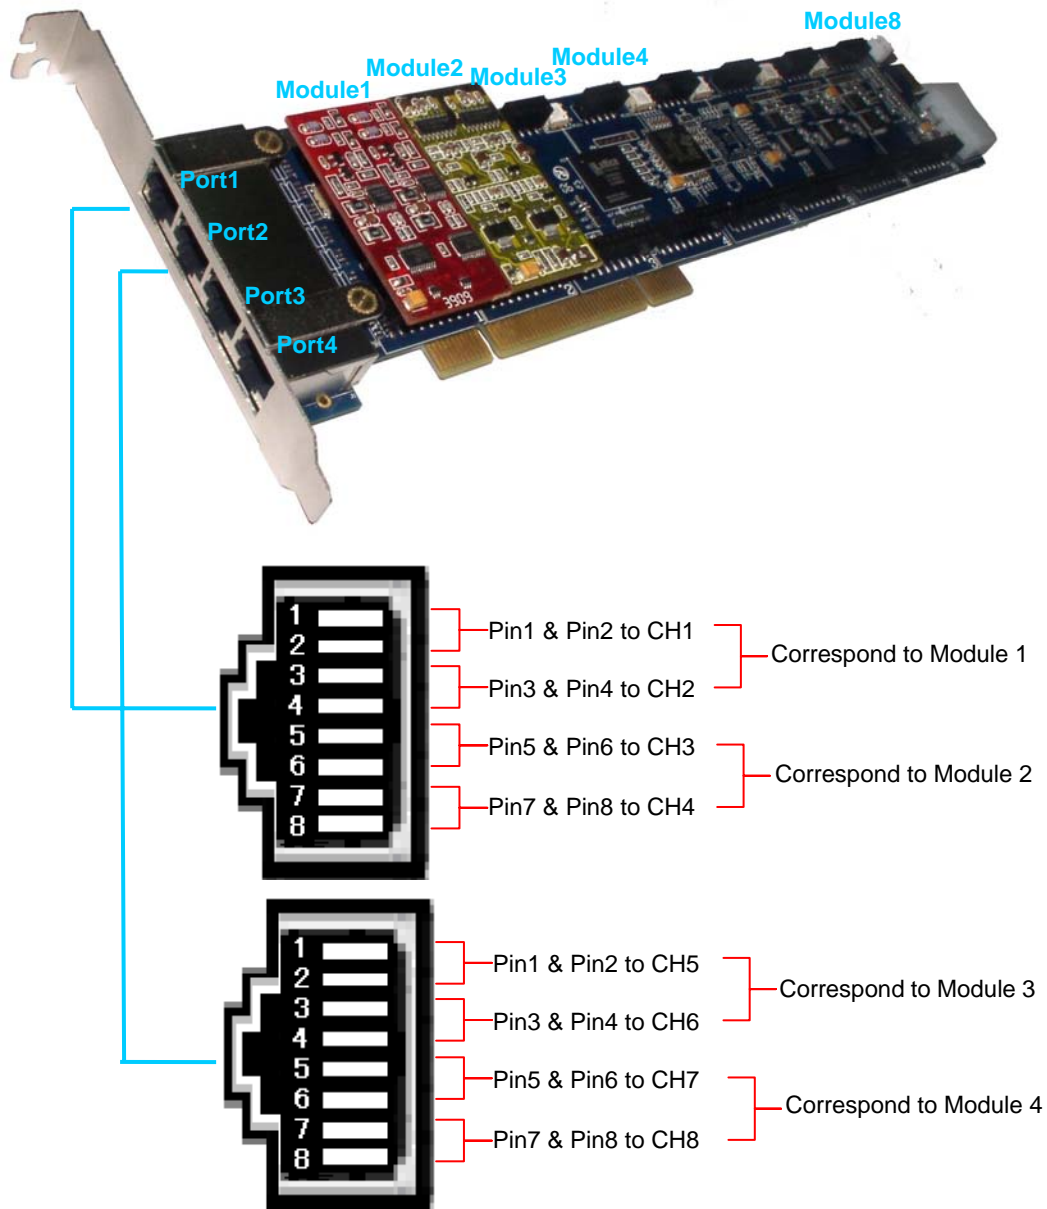

Figure 2-7 Relations among RJ45 interface, Channel and Module
Figure 2-7 below illustrates the corresponding relations among the RJ45 interfaces on the motherboard, the channels and the modules.
- 1) Each RJ45 interface is only related to modules on the corresponding position. As shown in Figure 2-7 above, the interface Port1 only corresponds to Module1 and Module2. It doesn't matter that what kind of modules (FXO, FXS or FXC) Module1 and Module2 are. Likewise, Port2 are related to Module3 and Module4 and the like.